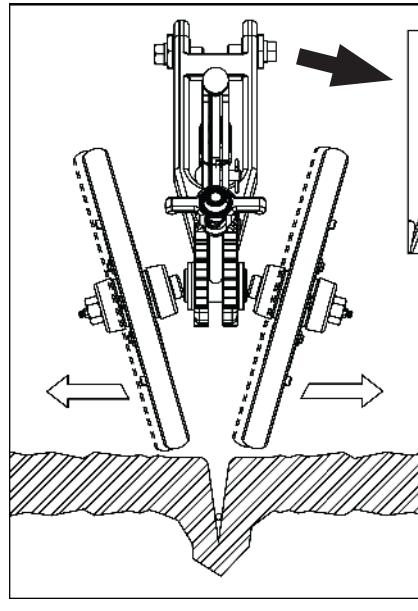

Figure 59
- For horizontal displacement of wheels, they were developed with eccentric sleeves (5). For this setting, proceed as follows:
- 18 - Loosen the bolts (7) and rotate the sleeves (6) with a key to move the wheels and align them with the furrow, placing higher or lower amount of soil laterally on the seed, as shown in Figure 59.